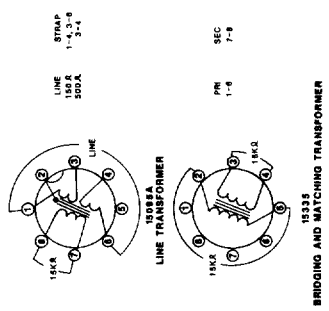

Figure 6. Schematic (3D186-28), 1594C Power Amplifier
1. Connect a 16-ohm dummy load across terminals 2 (16 ohms) and 5 (common) of TB2 (see Figure 6).